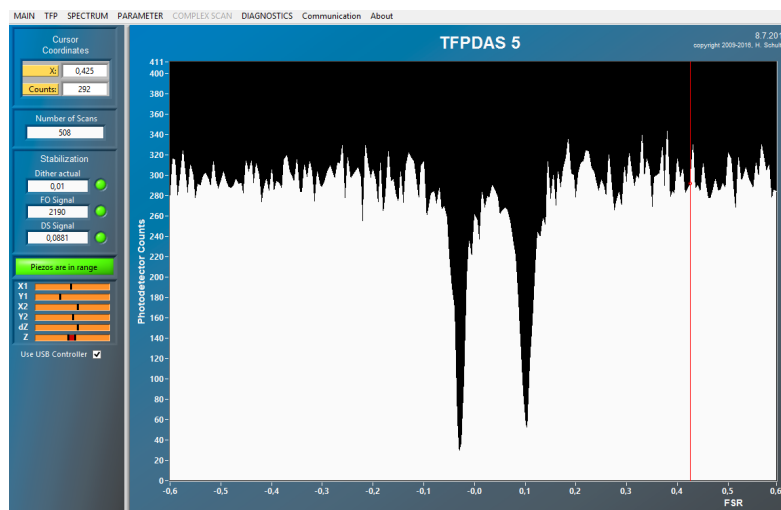

Figure 5: Exemplary signal obtained in *reflection mode*. The two dips originate from the two etalons of the *TFP-interferometer*.
- [18] As described in [17], by using the arrow keys on the keyboard, rescale the y-axis of the spectrum again to a maximum value of ≈ 400 counts. Subsequently, carefully unblock the laser light incident on the reference beam side of the doubleshutter unit of the *TFP-interferometer* and adjust the overall intensity to 300 to 400 counts as shown in Fig. 5. You should see two - more or less distinct - dips in the spectrum originating from the two FPIs: